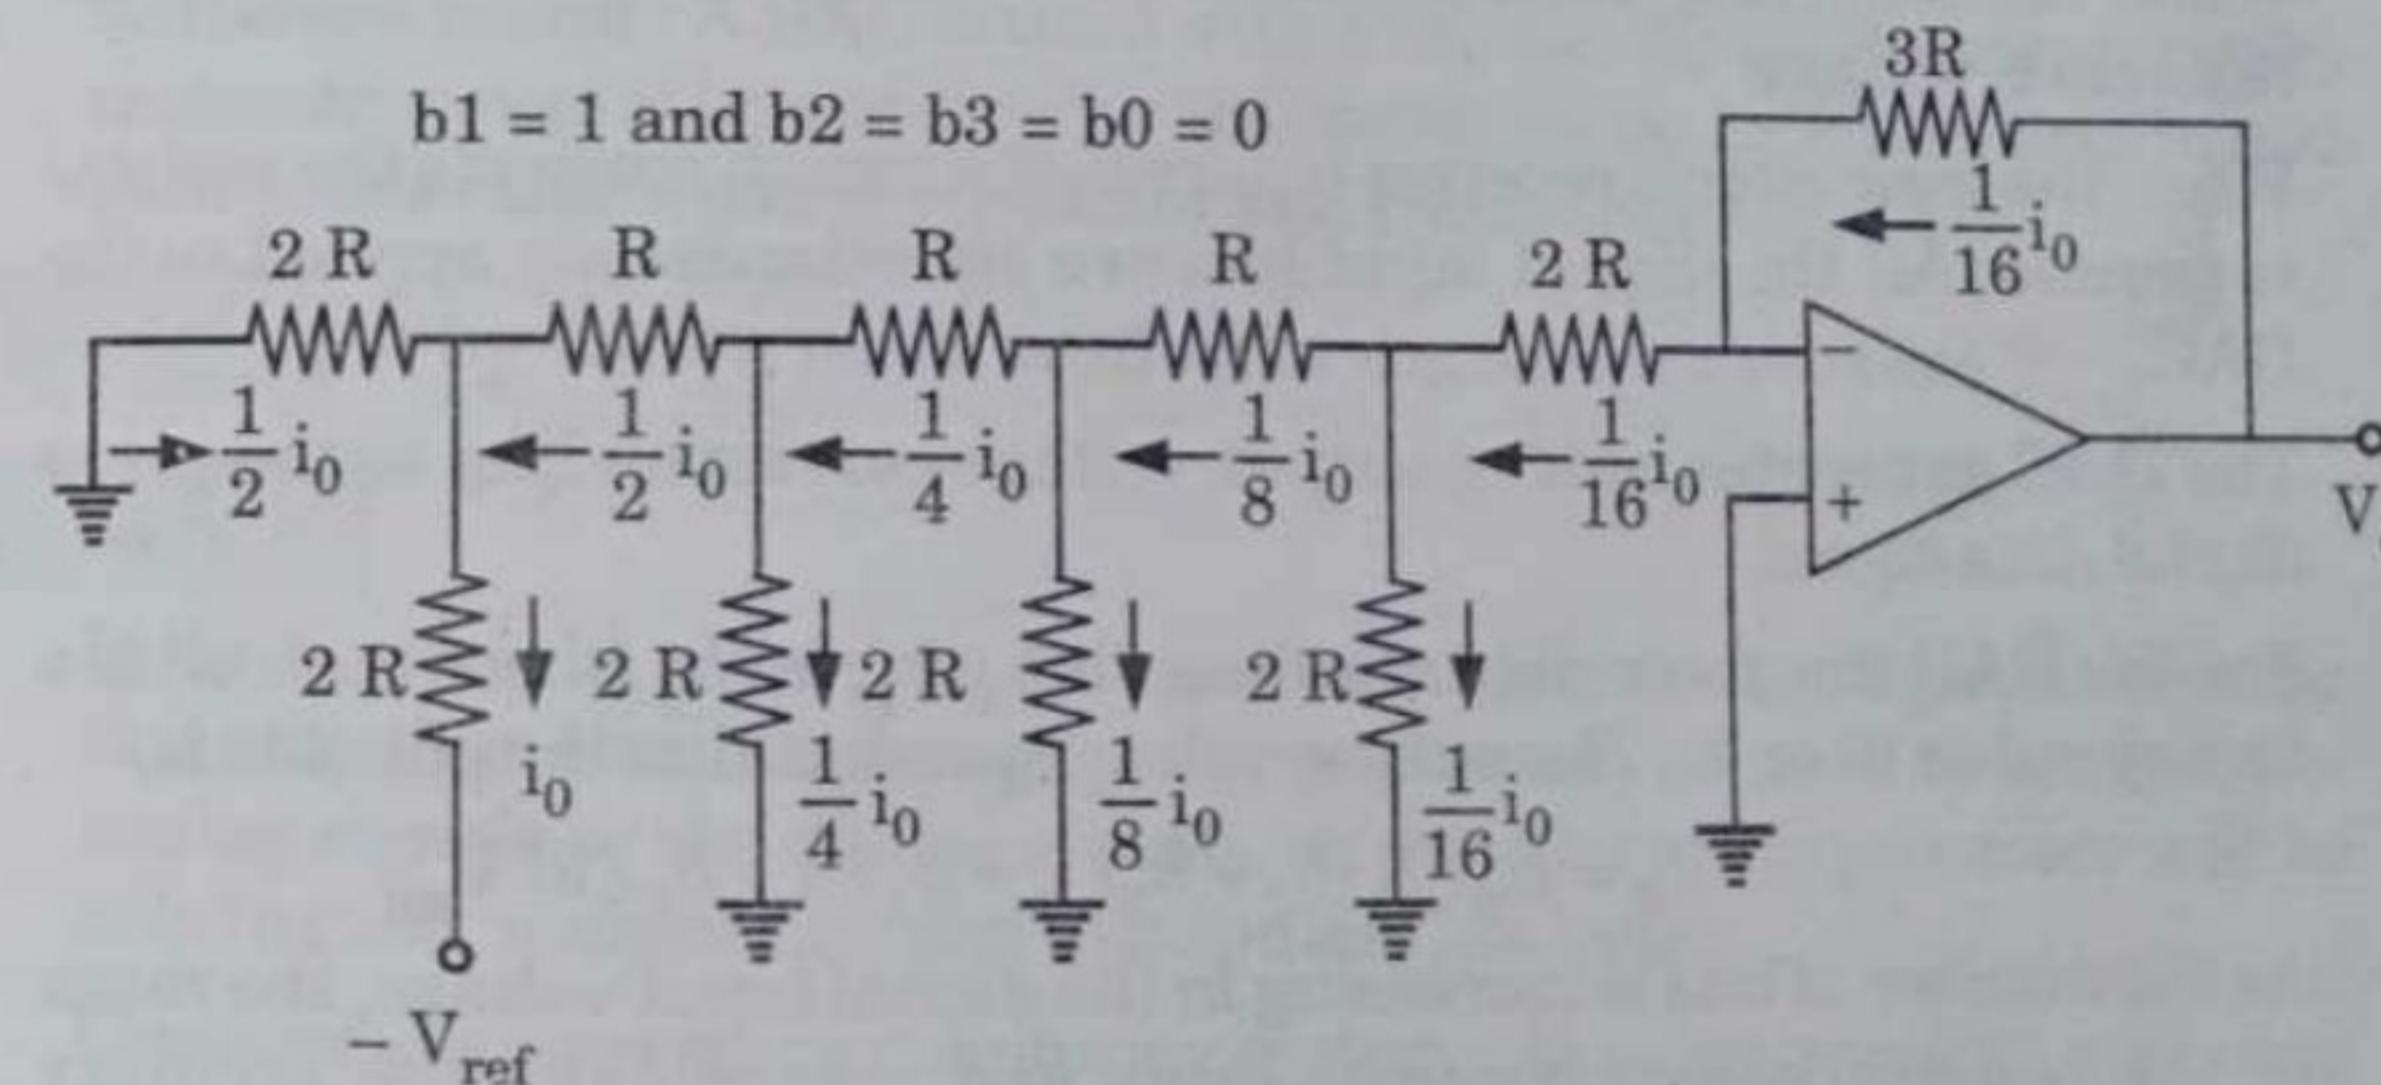

Fig. 4.15.5.
7. Finally, the circuit is shown in Fig. 4.15.5 corresponding to the case where $b_0 = 1$ and $b_2 = b_3 = b_1 = 0$. The output voltage is $V_o = 3R(i_0/16) = V_{ref}/16$.